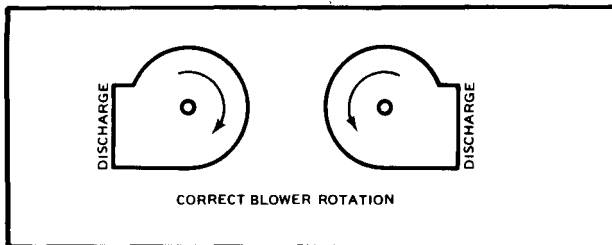

FIGURE 22 - Blower rotation
Check for correct blower rotation on three phase models. See Figure 22. Correct by interchanging any two of the power supply connections.
1. The blower should be providing a strong discharge airflow. ON THREE PHASE MODELS, THE BLOWER SHOULD BE ROTATING THE DIRECTION SHOWN IN FIGURE 22. If it isn't, correct rotation by interchanging any two power supply leads.